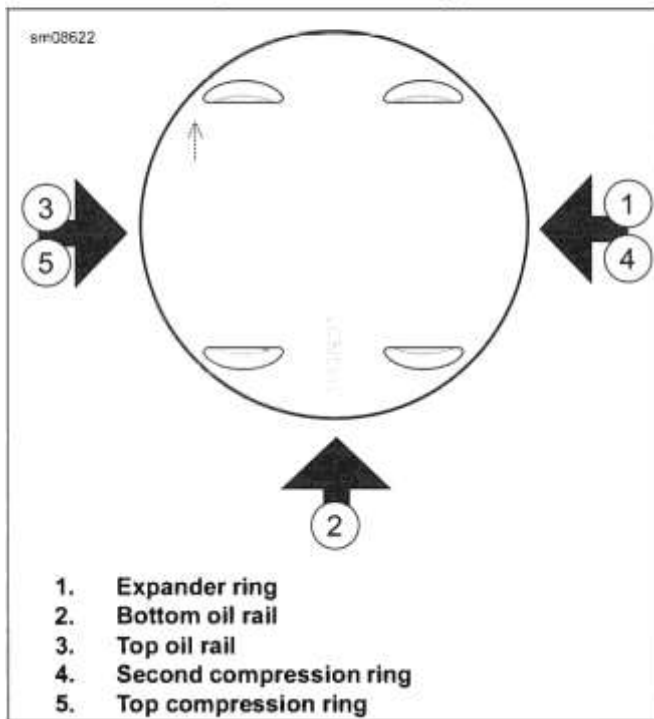

Figure 4-48. Piston Ring Order of Assembly and Gap Alignment
3. Install top compression ring (5).
5. See Figure 4-48. Arrange gaps as shown.